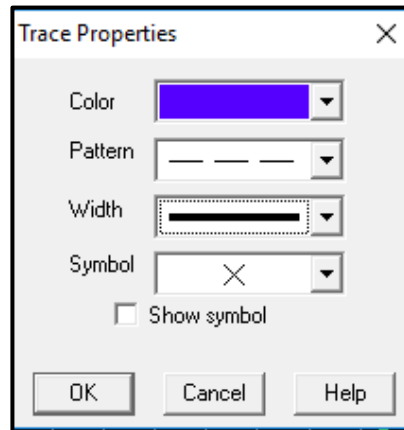

Figure.34
- The window shown in figure.34 will show up, you can change trace properties.